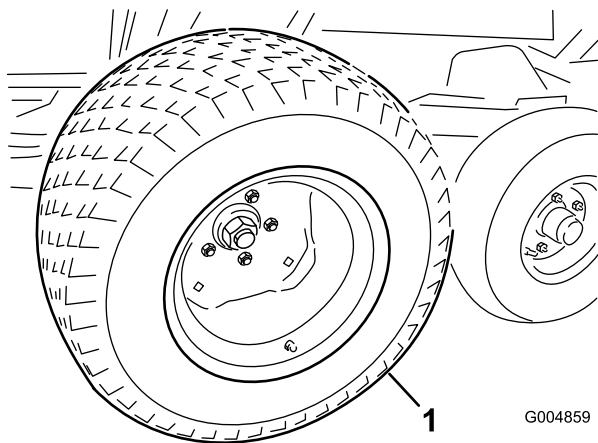

Figure 80
20. Install the summer drive tires with two nuts per tire (Figure 80).